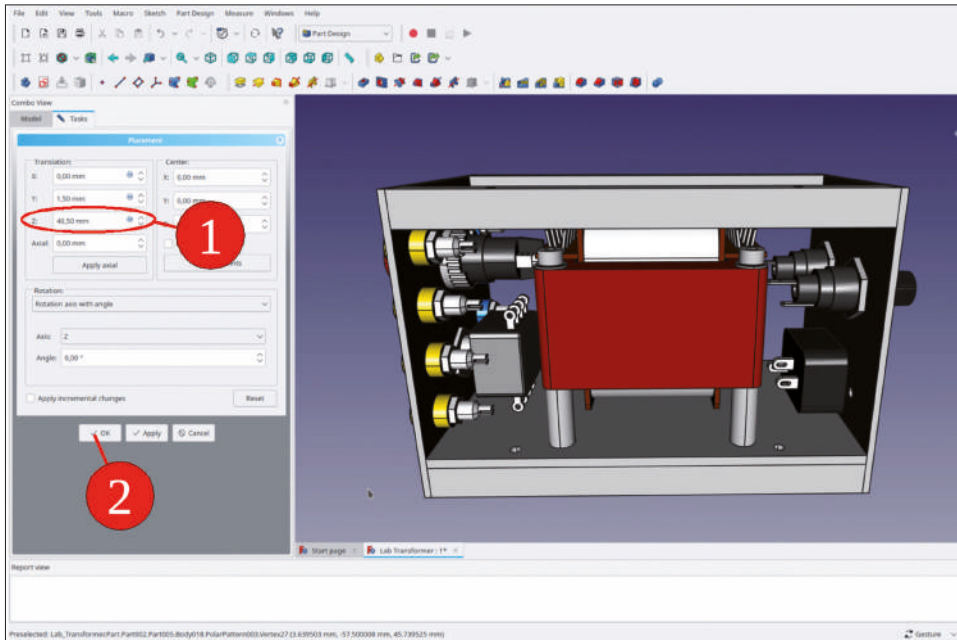

Figure 9-87
22. Drag-and-drop the Std-Part-Container 'ET3 Complete' into the 'Trafo Chassis Complete' Std-Part-Container. Edit the placement of the transformer container and set the Z translation to 40.5 mm (Figure 9-87).